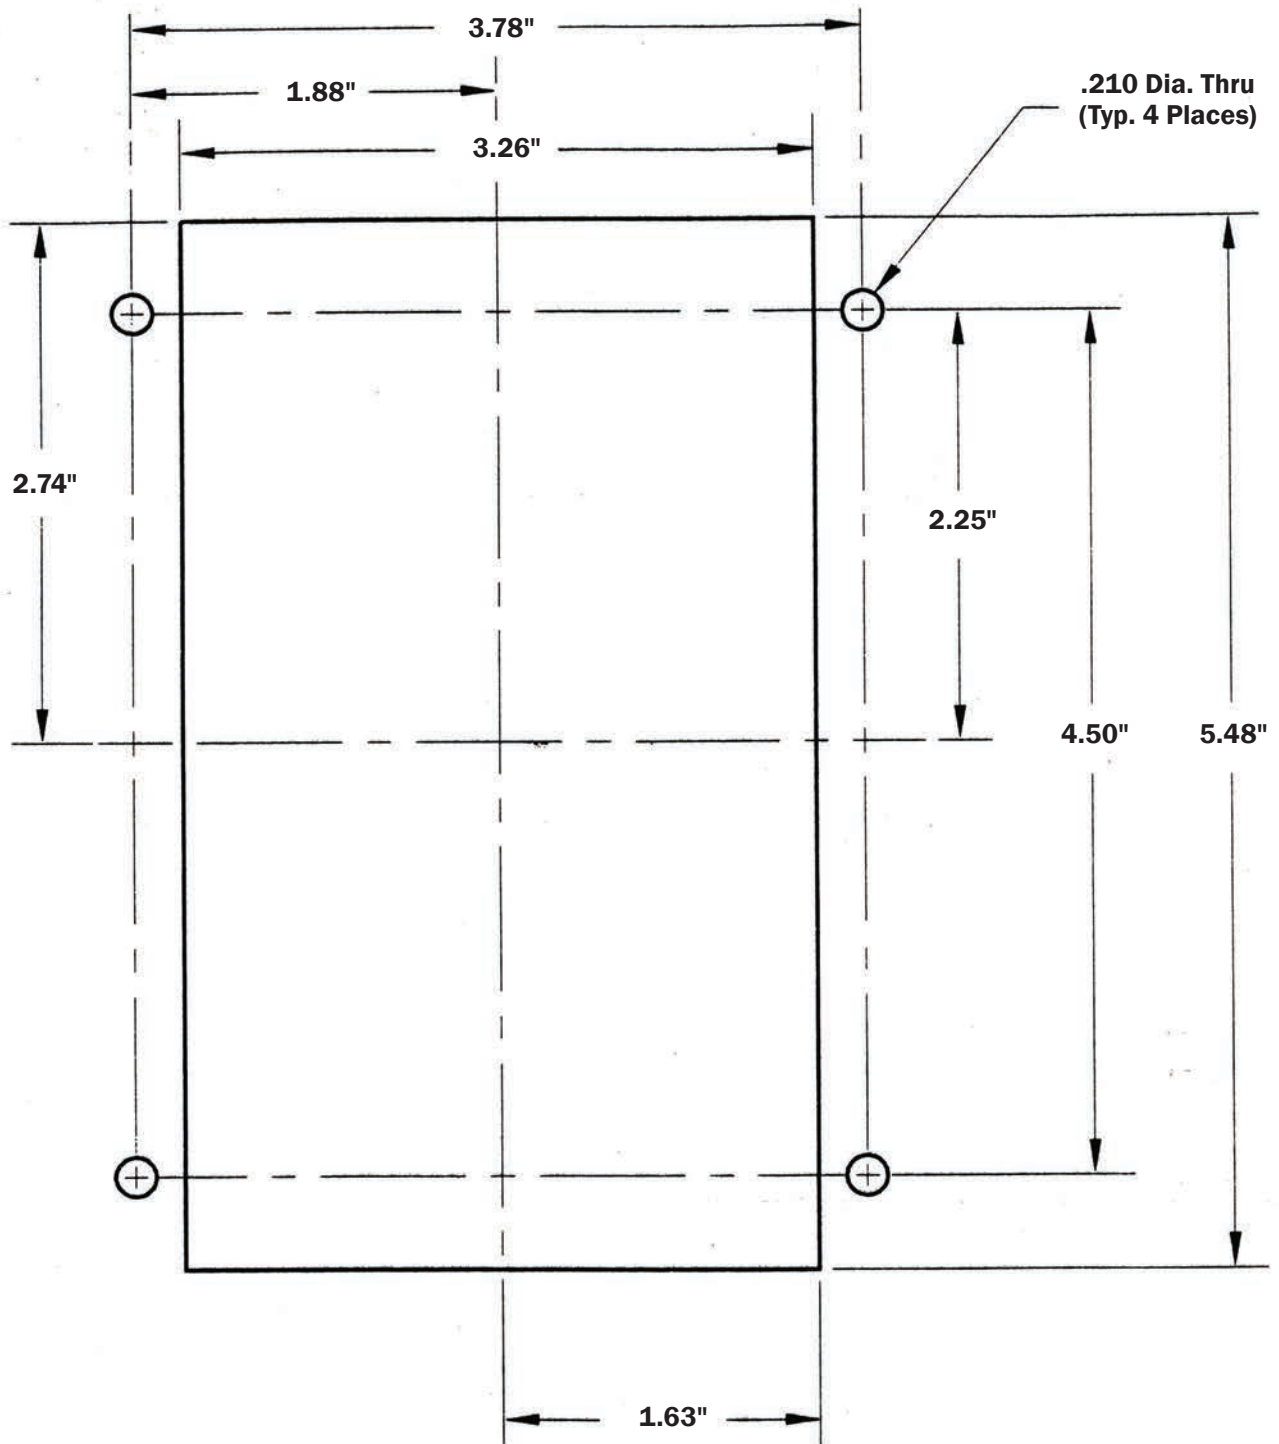

Figure 4.
STEP 4. At each control location, position the template (Figure 4) and carefully mark the holes and cut-out. Recheck the location and clearances, and, if they are correct, drill the holes and make the cutout.